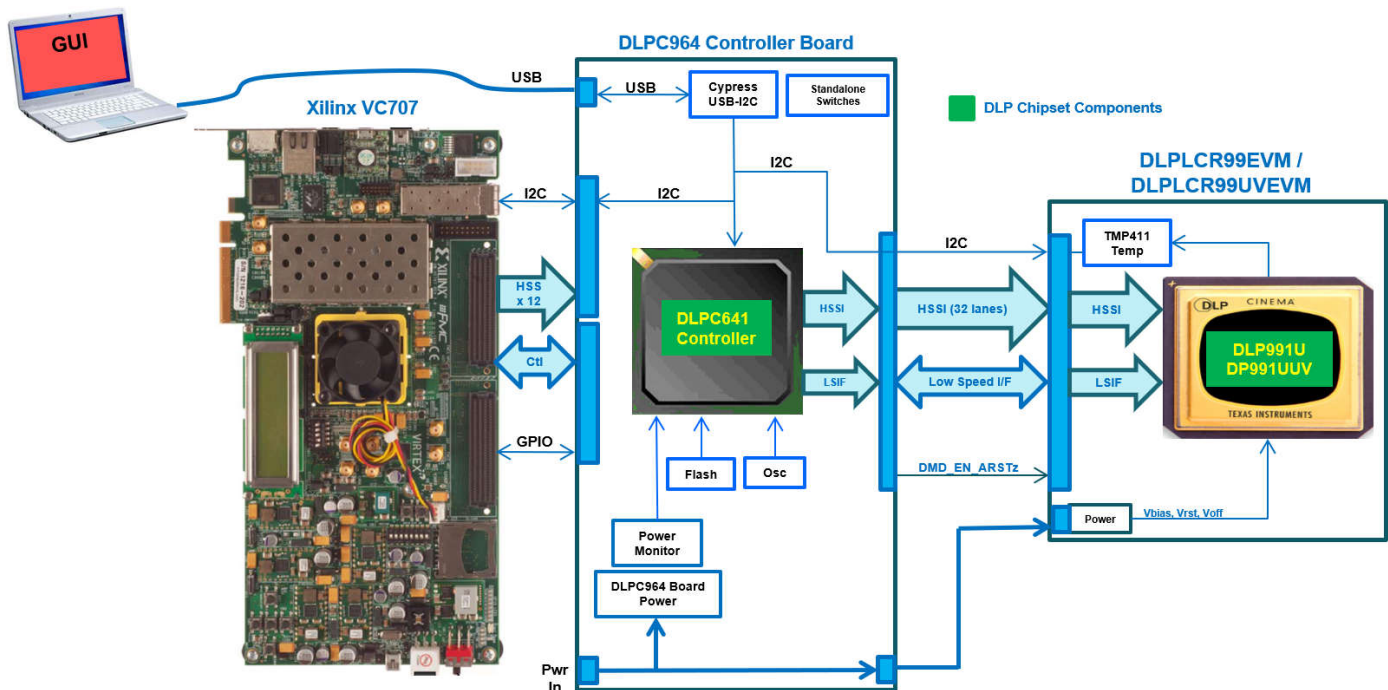

Figure 1-1. Apps FPGA Hardware Target
The Apps FPGA reference code is targeted to the AMD Xilinx Virtex-7 FPGA housed on an AMD Xilinx VC-707 Evaluation Board. Figure 1-1 shows how the VC-707 Evaluation Board connects to the Texas Instruments (TI) DLPC964 Evaluation Module (DLPLCRC964EVM), which connects to the DLPLCR99EVM or DLPLCR99UVEVM.